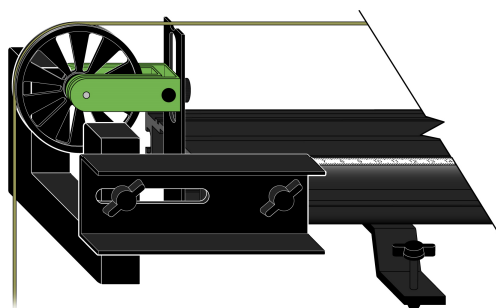

Figure 2
4. Attach the photogate to the track using a bracket so that the spokes on the pulley interrupt the beam, as shown in Figure 2.